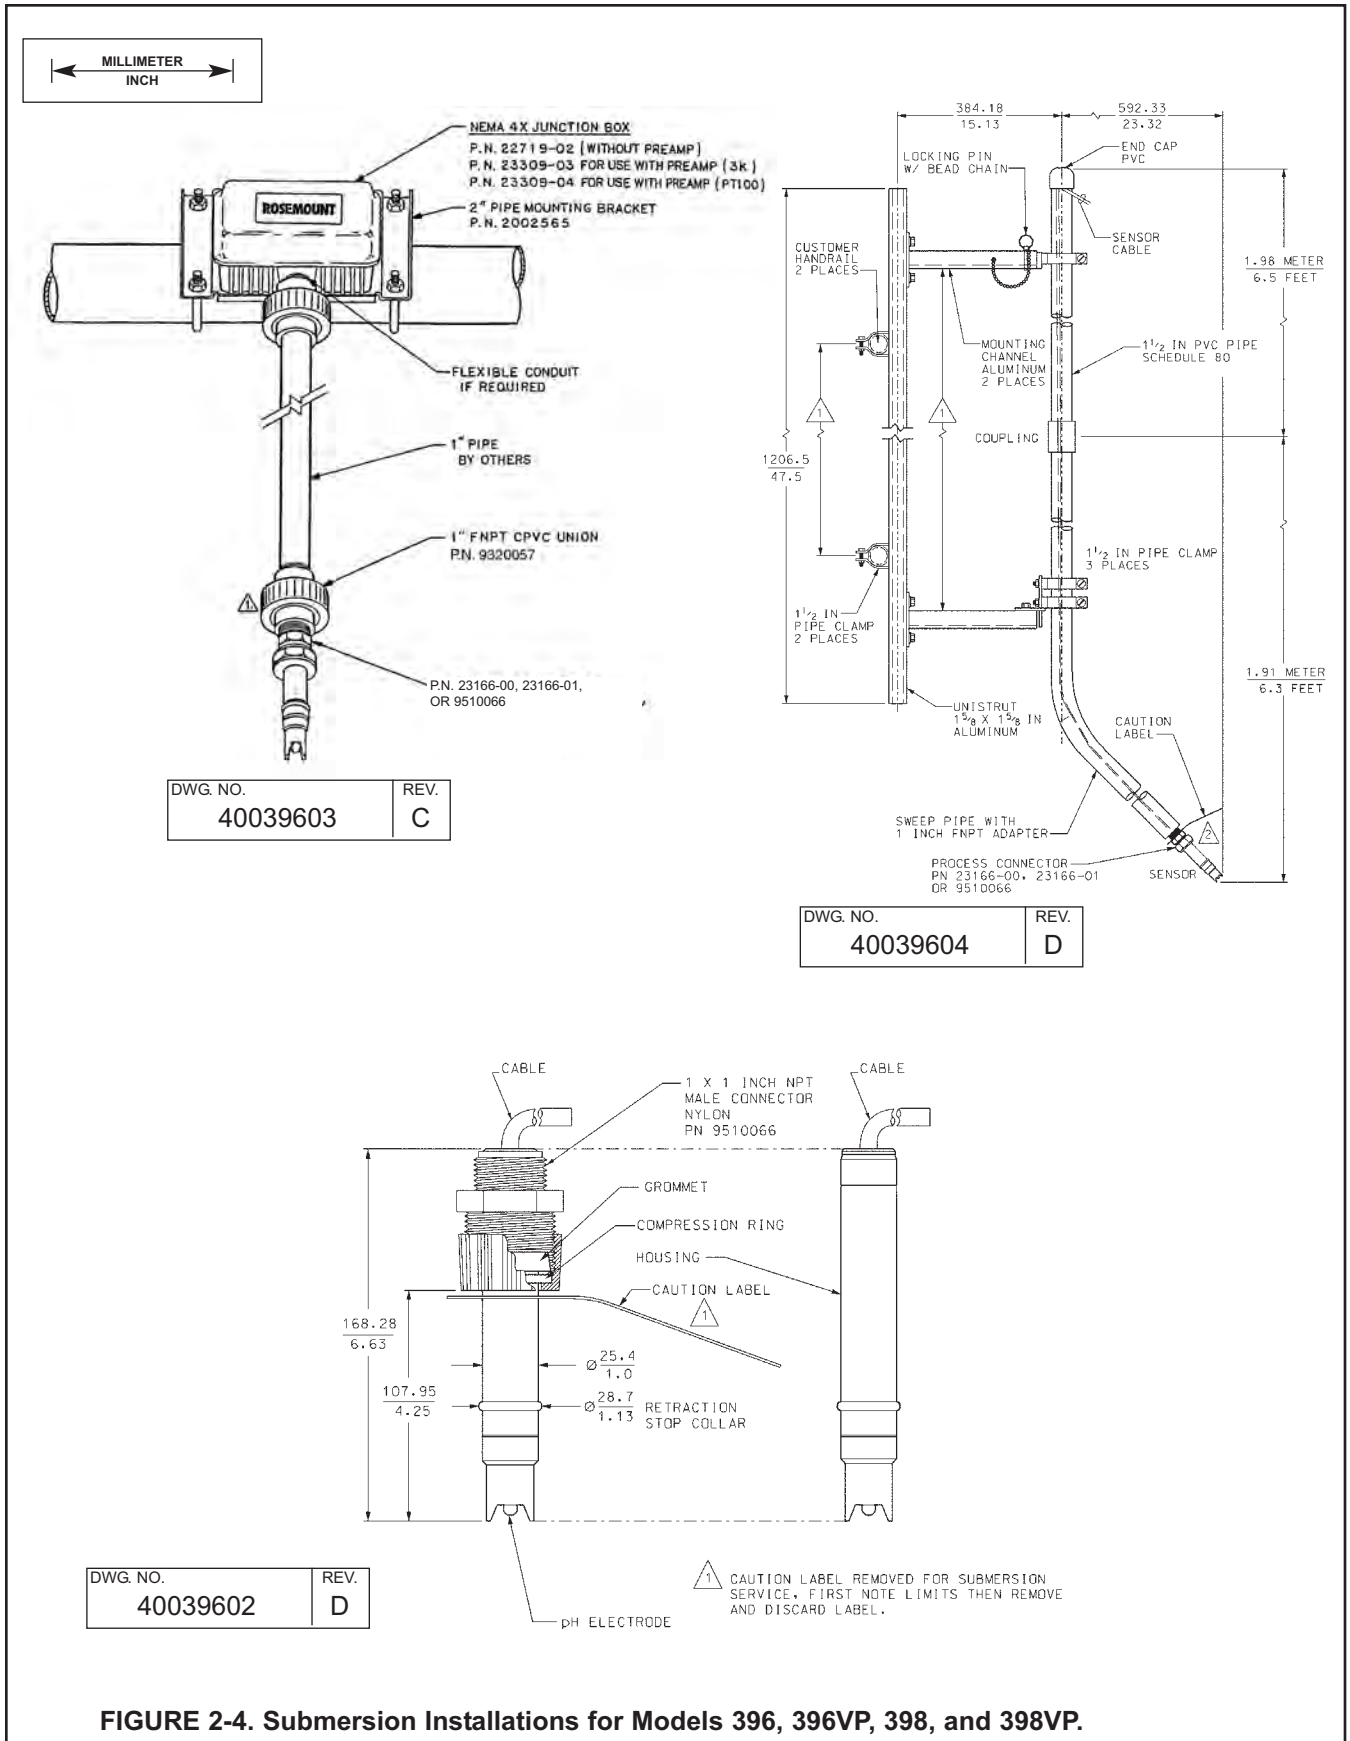

FIGURE 2-4. Submersion Installations for Models 396, 396VP, 398, and 398VP.
2.2.2 Submersion Mounting for Models 396, 396VP, 398, and 398VP. The Models 396, 396VP, 398, and 398VP Sensors also have a 1 inch MNPT process connector available for use on the back of the sensor. Tapered pipe threads in plastic fittings tend to loosen after installation. It is therefore recommended that Teflon tape be used on the threads and that the tightness of the connection be checked frequently to assure that no loosening has occurred. To prevent rain water or condensation from running into the sensor, a weatherproof junction box is recommended (see Figure 2-4). The sensor cable must be run through a protective conduit for isolation from electrical interference or physical abuse from the process. The sensor should be installed within 80° of vertical, with the electrode facing down. The sensor's cable should not be run with power or control wiring.